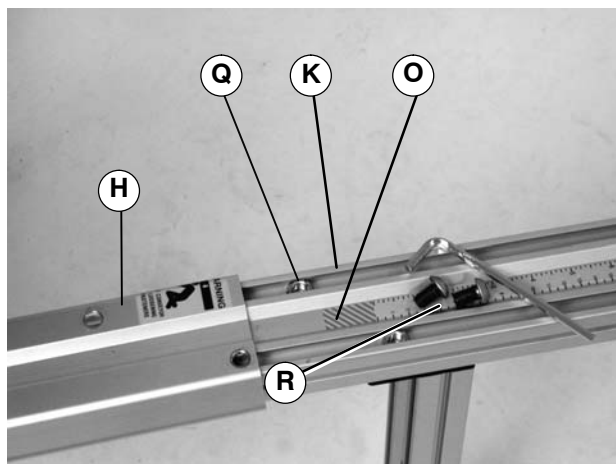

Figure 8
WARNING Failure to secure screws (R of Figure 8) may cause conveyor sections to drop down causing severe injury. TIGHTEN SCREWS (R) AFTER ADJUSTMENT.
8. Slide boot (H of Figure 8) onto stand leg (K). Align hex nuts (Q) and boot holes and attach boot with button screws (R). Tighten button screws to 150 in-lb (17 N-m). Repeat for opposite leg.
IMPORTANT: Red warning area (O of Figure 8 must be under boot (H) after assembly.